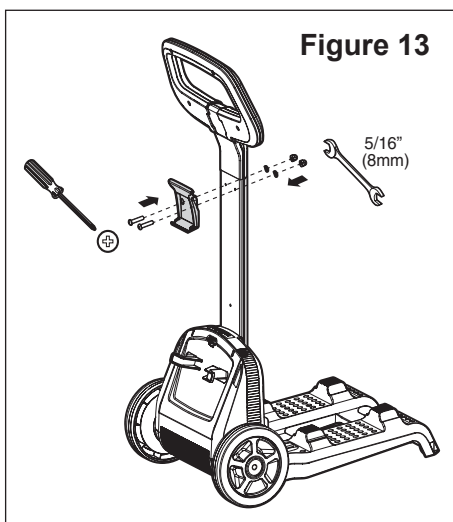

Figure 13
1. Using the two longer Phillips-head screws, two washers and two 5/16" (8mm) nuts provided with the caddy, install the power supply hook to the caddy's handle support. See **Figure 13**.